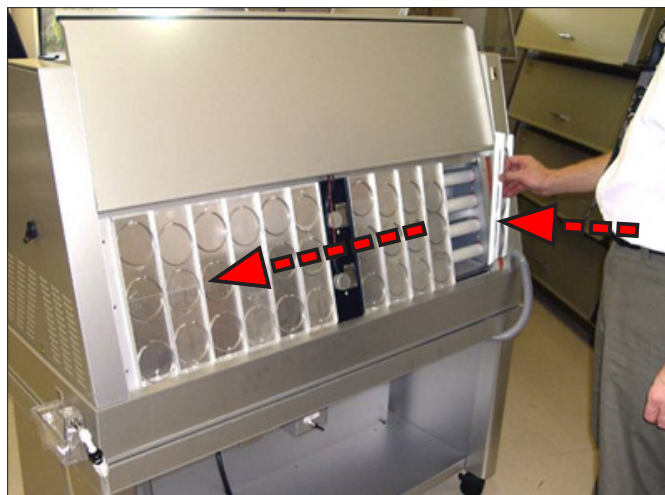

Figure 10.4b: Slide panels to the left, place two panels at right end.
- Slide all the other holders to the left and replace the two that were removed on the right end (Figure 10.4b).